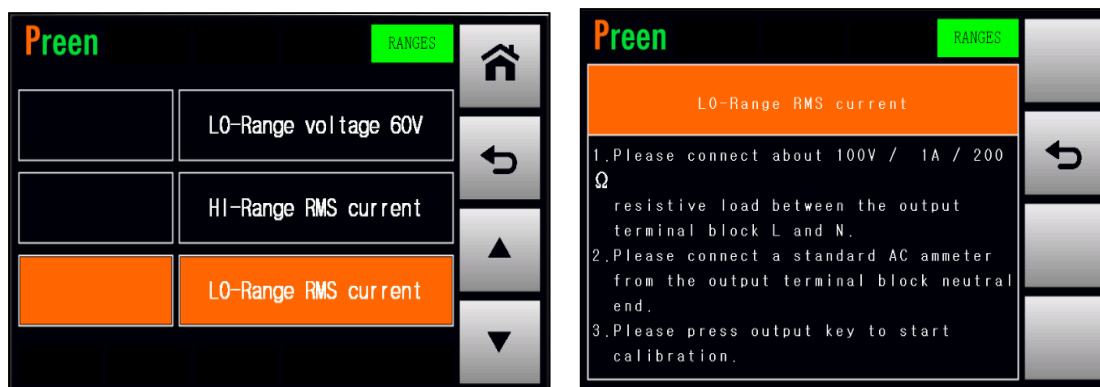

Figure 6.15 Enter the page which calibrates the LO-Range RMS current
1. Press the item **HI-Range RMS current** repeatedly to enter the page which calibrates the LO-Range RMS current (refer to Figure 6.15).